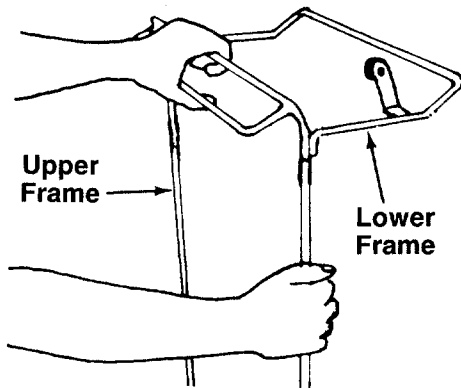

FIGURE 11.
2. Join the upper frame and lower frame assembly ← as shown in figure 11.